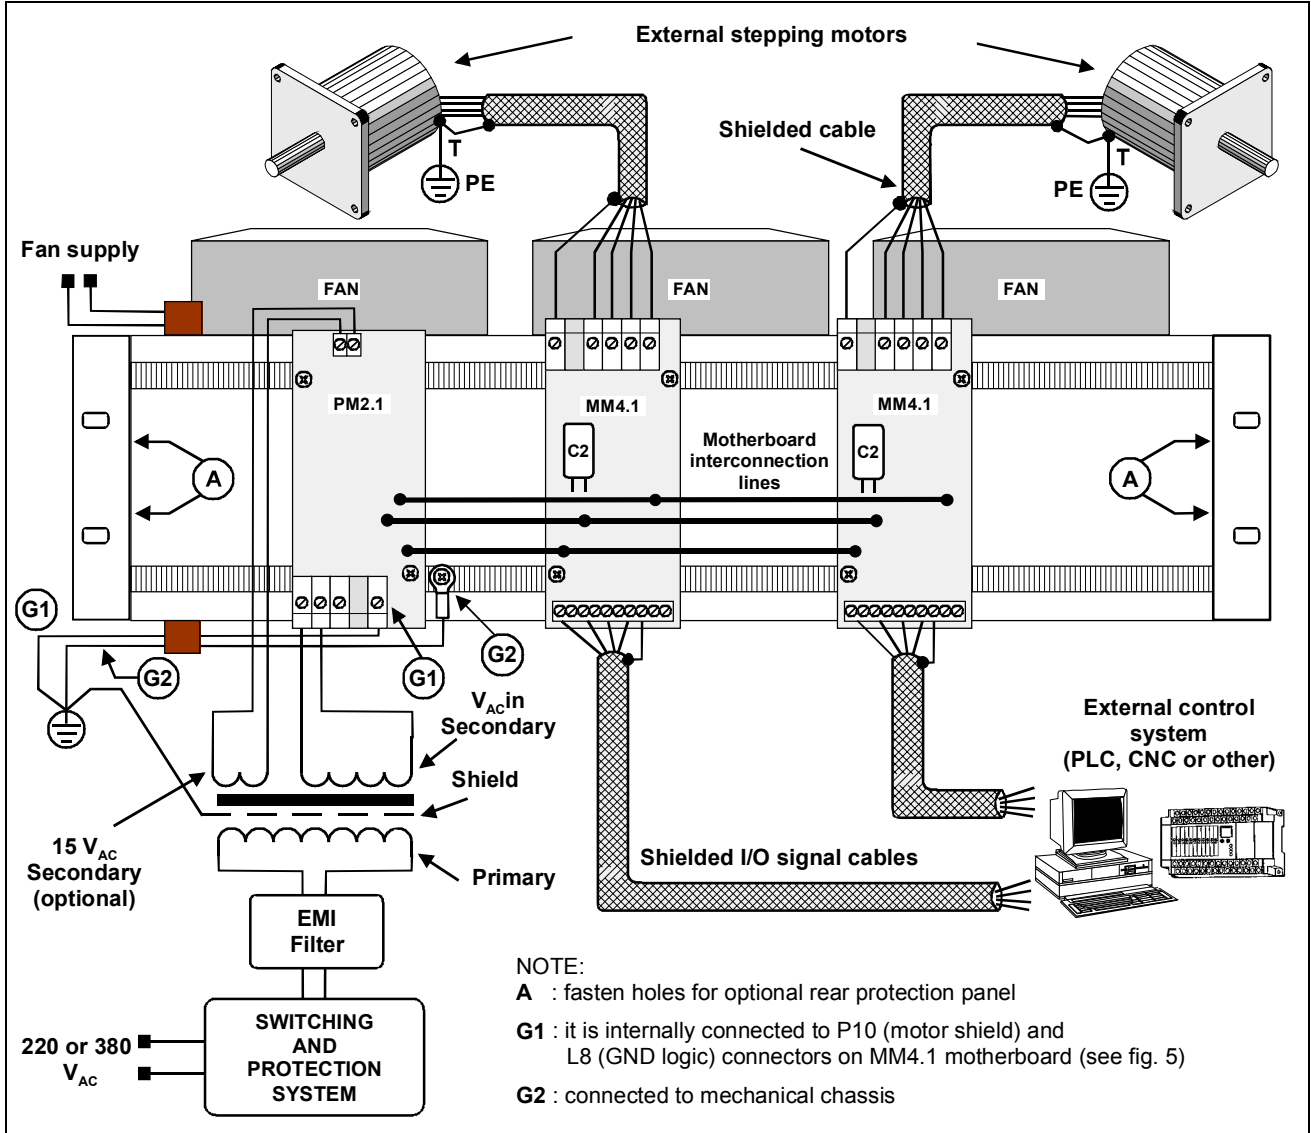

Fig. 7 RACK REAR VIEW
- 8.1 - RTA can supply, in order to house GMH series drives, pre-assembled, 3 Units EUROPA racks of 10.5", 12.5" and 19". The racks are fitted with a Power Supply and a variable number of places for drives upon customer's request. A complete rack is composed from following parts (fig. 7):
8.8 - In Fig. 7 are shown connection diagrams of a complete rack set-up (one Power Supply, two drives and three fans) with external elements (motors, control system and transformer). As far as regards input and output logic signals, refer to chapter 4 and 5. In order to simplify the drawings, in the figure a single phase transformer is shown. When you use a three-phase transformer, obviously, you have to use also the third screw connector of PM2 motherboard; in this case the transformer secondary has to be triangle connected. With rack configurations without power supply, the PM2 motherboard is not present and thereby the user must make the necessary connections between the supply lines of MM4 motherboard and its own external supply. Dimensioning criteria are the same indicated in the chapter 7.